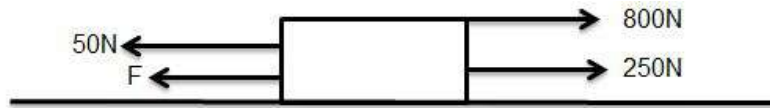

FIGURE 3
- 2.2 In FIGURE 3 below show an object that is in equilibrium. Determine from FIGURE 3 the following: